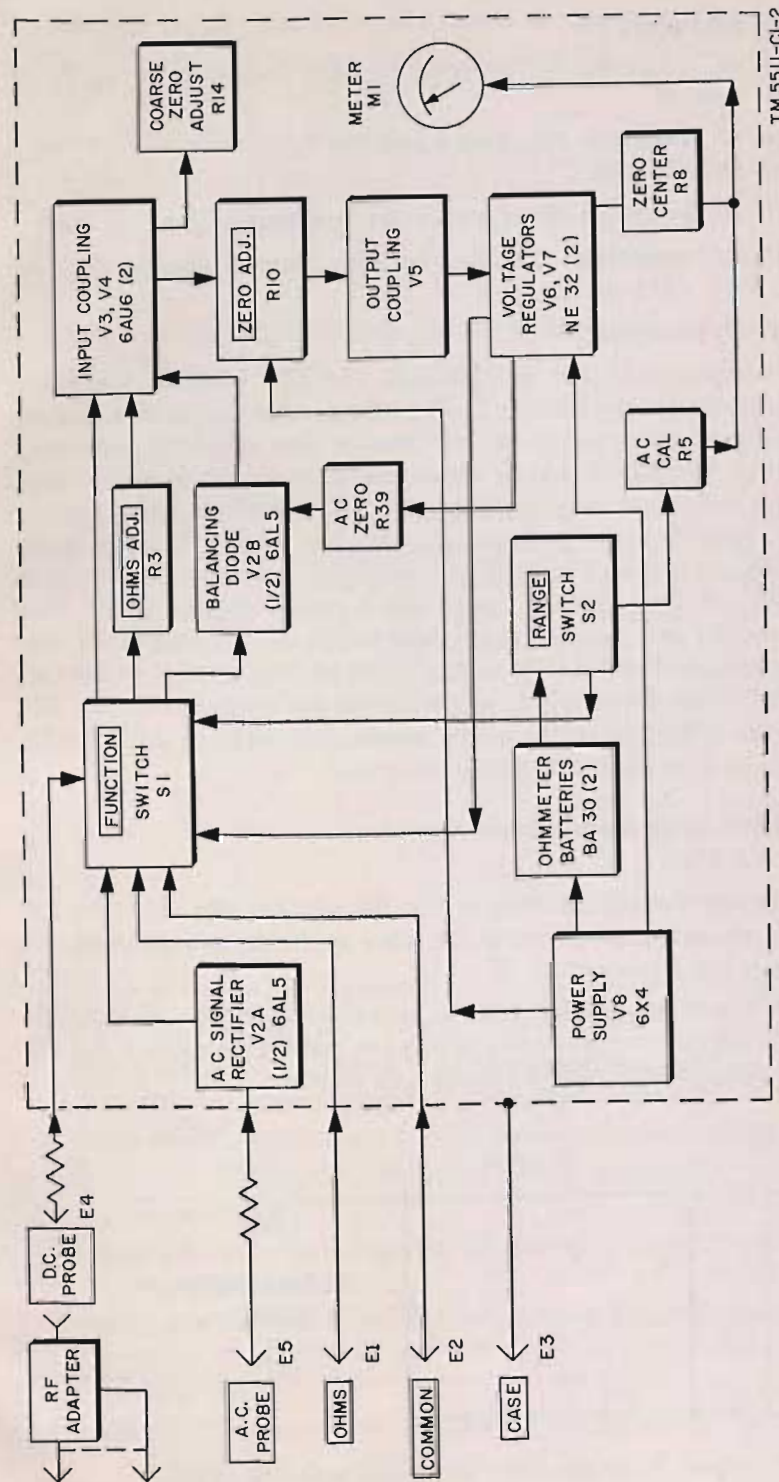

Figure 5. (Superseded) Electronic Multimeter TS-5051U, block diagram.
33. Block Diagram (Superseded) (fig. 5)